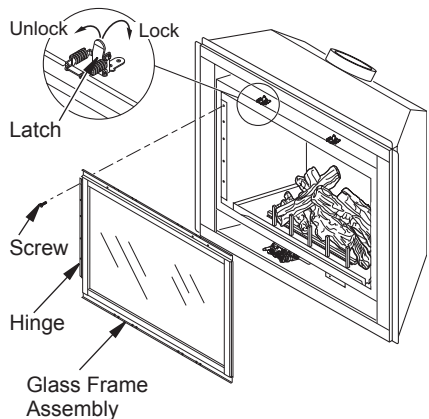

Figure 42 - Removing/Replacing Glass Door
2. Lift up on latches to unlock. There are two on top of firebox and two below firebox that hold glass door in place (see Figure 42).
3. While holding glass door to prevent it from falling and causing injury, remove the five screws from the hinge located on the left side of door frame assembly (see Figure 42).
5. Close glass door frame. Lock latches by placing the bar under the tab on door and pushing down and back on latch (see Figure 42, page 25).